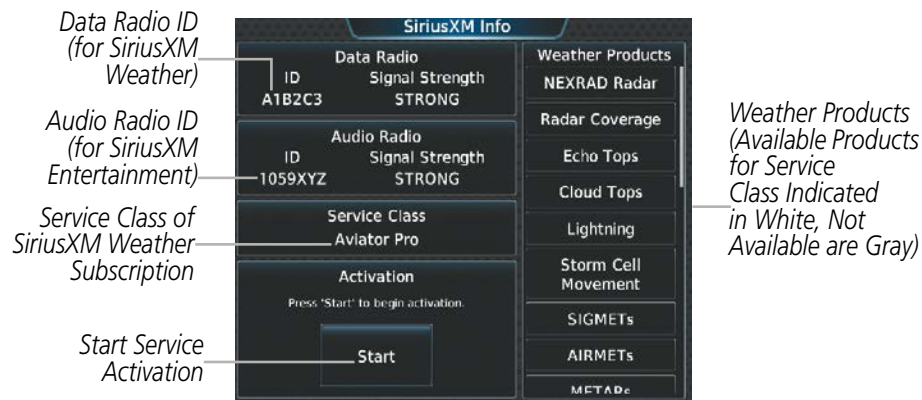

Figure 6-1 SiriusXM Info Screen After Activation
- The SiriusXM Info Screen on Touchscreen Controllers (Figure 6-1)
- 2) Note the ID shown in the Data Radio Window as seen in Figure 6-1.
- 3) Touch the **Start** Button in the Activation Window (Figure 6-1). The Activation Window shows 'ACTIVATING' while processing the activation.